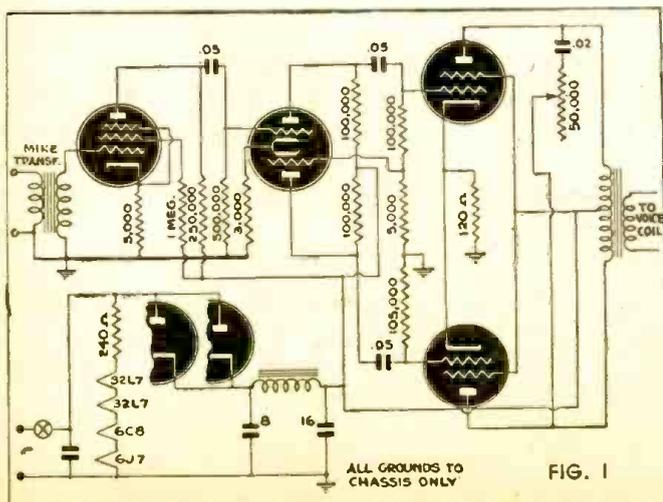

FIG. 1
A. Since it is extremely doubtful if—even with transformer coupling—one 6J7 could drive your two 32L7's and deliver any volume or quality, we are taking the liberty of adding another tube, a 6C8. This is used as a phase inverter, between the 6J7 and the two output tubes. (See Fig. 1.)